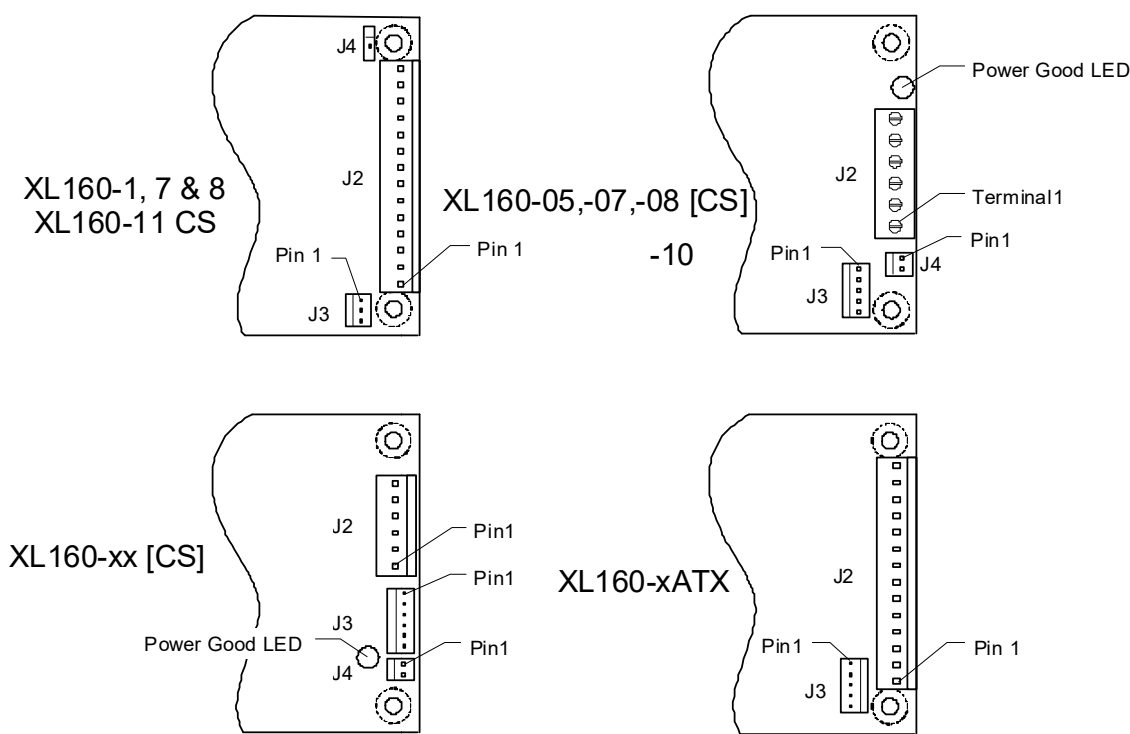

Figure 4-3 XL160 Output Connector Layouts
The pin-1 location differs amongst connector manufacturers. Sometimes pin-1 differs between the header (on the power supply) and the mating housing from the same manufacturer. Disregard the manufacturer's pin-1 location and follow only the pin-1 locations in Figure 4-3.
- Refer to Figure 4-3 for connector and pin-1 locations
A green LED on XL160-05 [CS], -07 CS, -08 CS, and XL160-xx [CS] models illuminates whenever the Power Good signal is true (high). See Figure 4-3 for the LED location near the output connector.